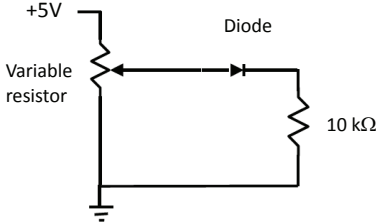

Figure 1: Circuit to measure the $I - V$ characteristics of a junction diode.
- b. Consider the circuit in Fig. 1. If the voltage across the resistor (to ground) V_r is $+1.8\text{V}$ and the input voltage V_{in} is $+2.0\text{V}$ what is the current through the diode? What is the voltage drop across the diode V_d ? (1 mark)
- Set up the circuit in Fig. 1 using your voltage divider. Make sure to include the 10 kOhm resistor in series with the diode since this limits the current through the diode so it will not be damaged.